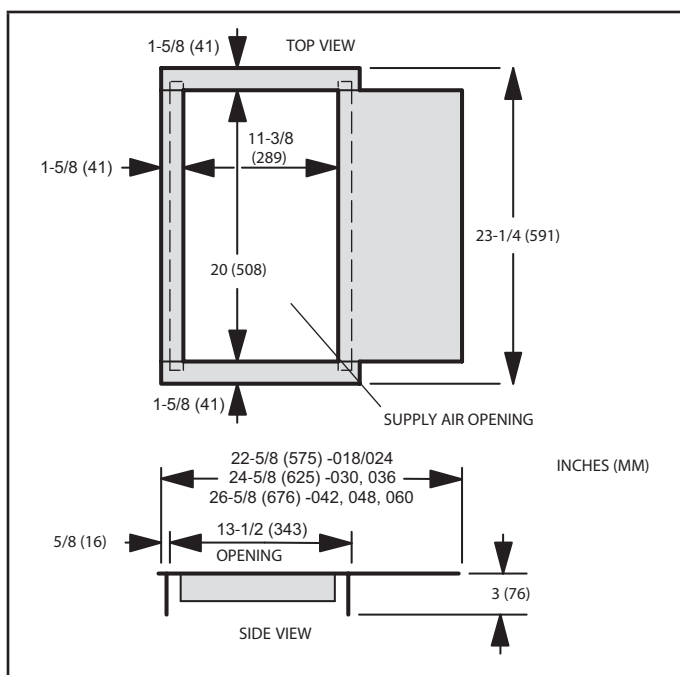

FIGURE 10. Downflow Combustable Base Dimensions
- 9 - Cut an opening appropriately sized for combustable base. Base dimensions are illustrated in figure 10. After opening has been cut, set the additive base into opening. Connect outlet air plenum to the additive base. Set the unit on the additive base so flanges of the unit drop into the base opening and seal against the insulation strips. The unit is now locked in place. Install return air plenum and secure with sheet metal screws.